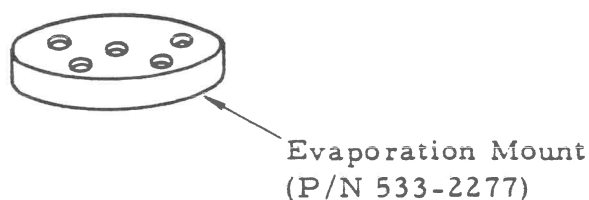

Fig. 2-6 Evaporation Mount
- (c) The electrically non-conductive specimens should be coated with evaporation-deposited metal film such as Au, Au + Pd, Pt + Pd. The evaporation mount is shown in Fig. 2-6.
(Fig. 2-6 (b))